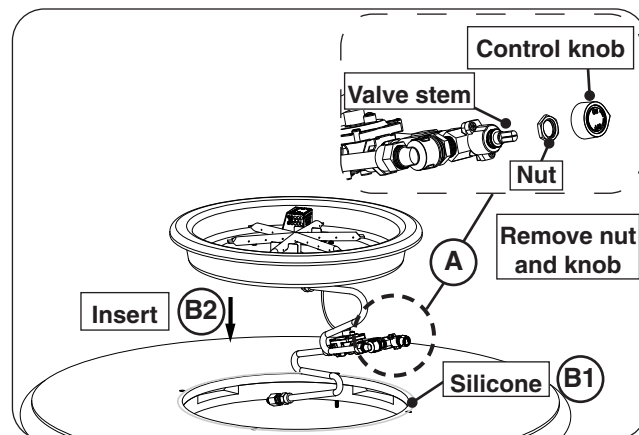

Fig. 27-3 Place burner
5. Locate the valve and burner assembly. Remove the control knob. Use a 20mm socket to remove the nut attached to the valve stem. See Fig. 27-3, A.
Then apply silicone along the top, and then drop the valve and burner assembly into the opening in the center of the firetable top. See Fig. 27-3, B1 and B2.